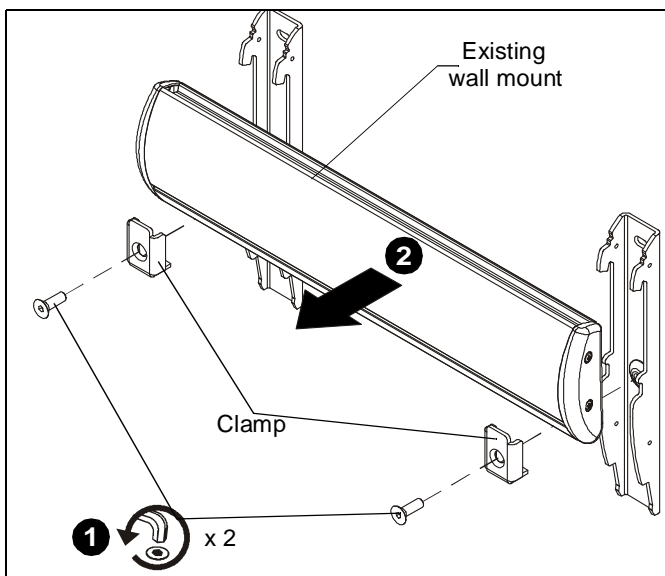

Figure 1
1. Remove **AND SAVE** two flat head cap screws and clamps from existing dual stud short throw projector wall brackets. (See Figure 1)
2. Remove existing wall mount from vertical wall brackets. (See Figure 1)